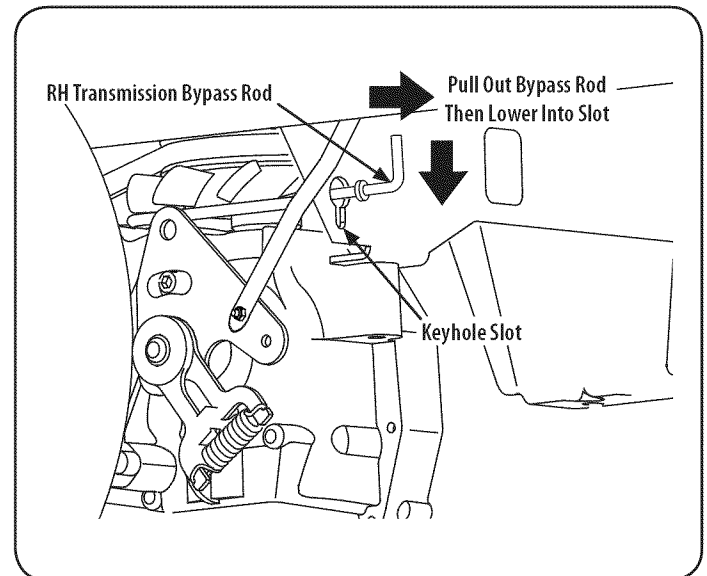

Figure 34
1. From just in front of the two rear tires, locate the transmission bypass rods. Refer to Figure 34.